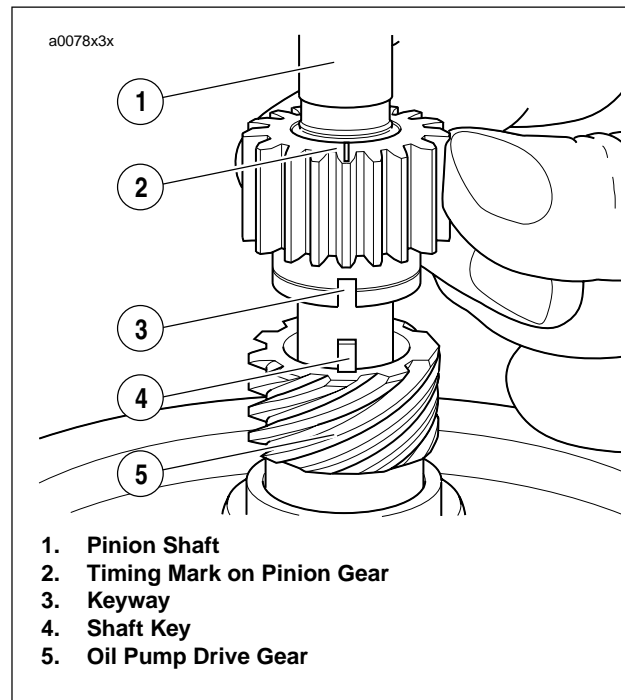

Figure 3-110. Aligning Pinion Gear
1. See Figure 3-110. Install oil pump drive gear and pinion gear on pinion shaft.